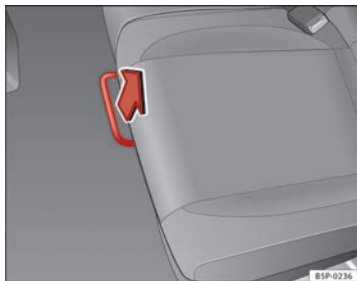

Fig. 96 For unlocking the rear seat
- In the seated position, unlock the lever in the direction of the arrow ⇒ Fig. 96.